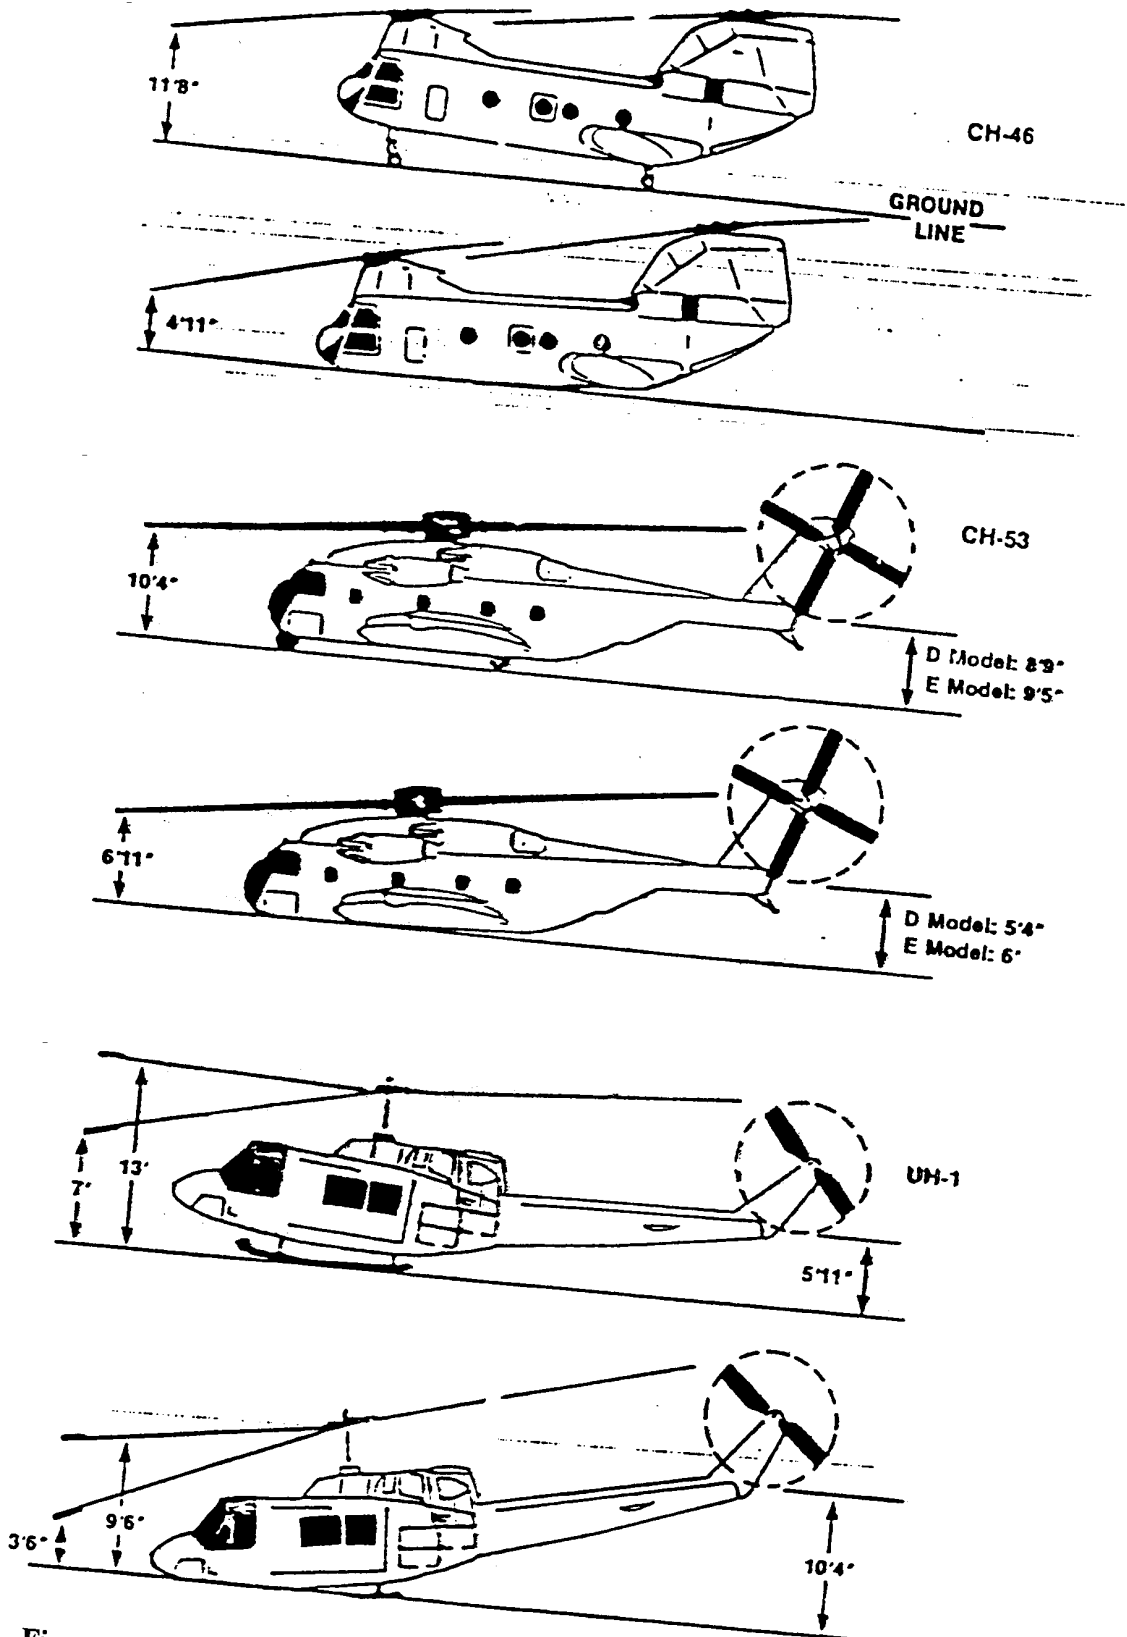

Figure. 10-6. Marine Helicopter Rotor Blade Clearances
- e. **Rotor Clearance.** All Marines must realize that helicopters settle into the snow when operating in snow covered LZs. This lowers the distance between the snow surface and the helicopter blades. Using the universal method of helicopter loading (ahkio huddle) eliminates this problem. **Do not approach helicopters from outside the rotor arc. When unloading, do not leave the ahkio huddle before the helicopter debarks the LZ.** (See fig. 10-6, 10-7)